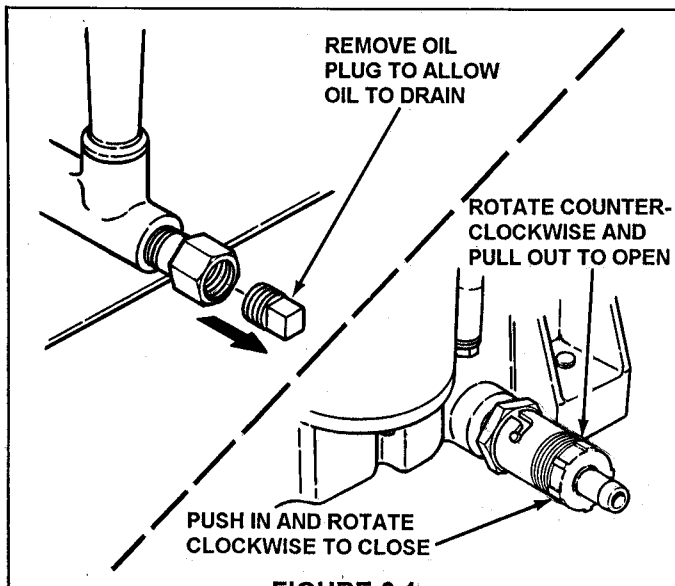

FIGURE 3.1
- d. Place a 2 quart minimum capacity container under the end of the oil drain. Open oil drain. See Figure 3.1 for oil drains used on the Series 15 Rear Engine Riders.
- e. After all the oil has drained, close the drain and wipe up any oil that may have spilled. See Figure 3.1.